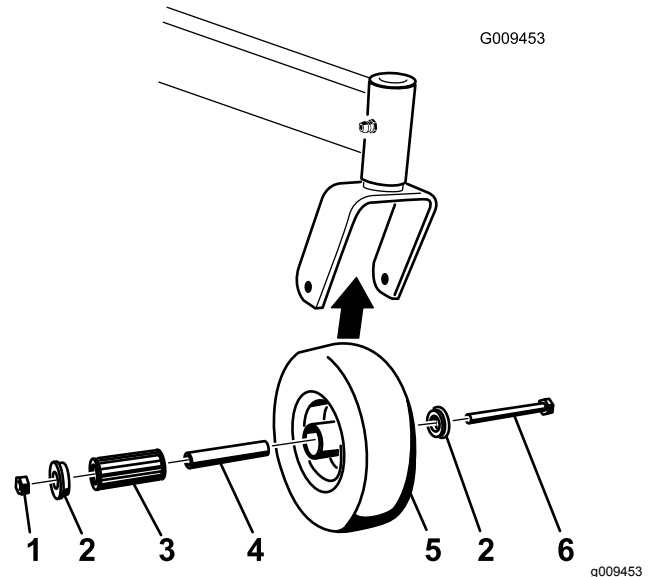

Figure 54
1. Remove the locknut and wheel bolt holding the caster wheel to the caster fork (Figure 54).
2. Remove 1 bushing, then pull the spanner bushing and roller bearing out of the wheel hub (Figure 54).
3. Remove the other bushing from the wheel hub and clean any grease and dirt from the wheel hub (Figure 54).
Note: Replace any damaged or worn parts (Figure 54).
5. Place 1 bushing into the wheel hub (Figure 54).
6. Grease the roller bearing and spanner bushing, and slide them into the wheel hub (Figure 54).
7. Place the second bushing into the wheel hub (Figure 54).
8. Install the caster wheel into the caster fork and secure it with the wheel bolt and locknut (Figure 54).
9. Tighten the locknut until the spanner bushing bottoms against the inside of the caster forks (Figure 54).